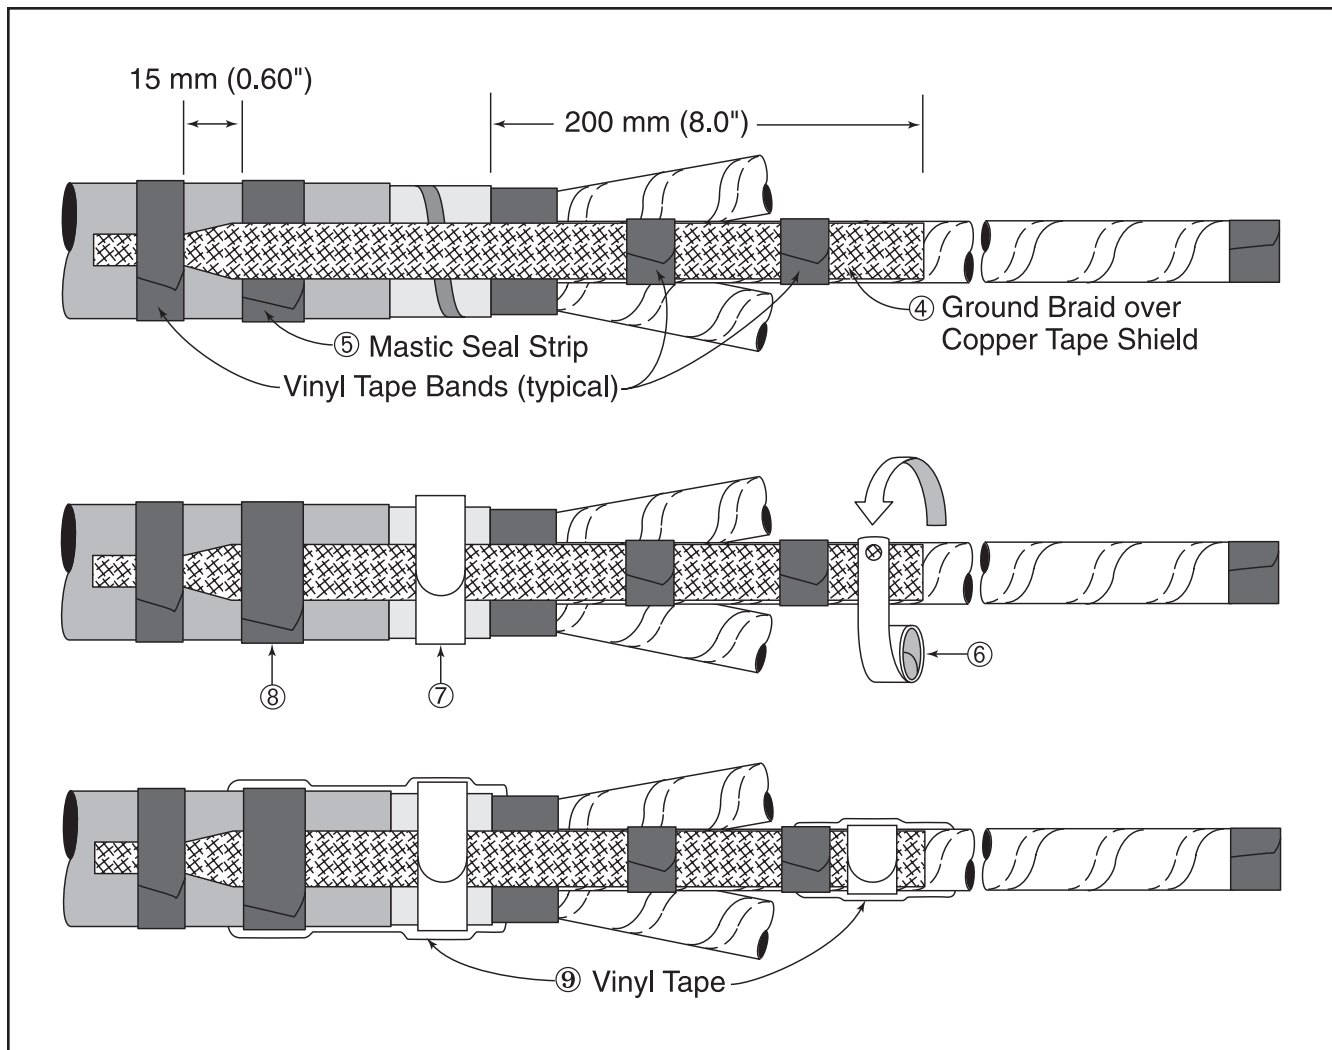

Figure 3
- 2.2 Position each expanded ground braid end over cable as shown in Figure 3. Using vinyl tape bands, secure upper braid end to copper tape shielding 200 mm (8.0") beyond armor edge (jacket edge for non-armored cable) (④ Figure 3). Secure to cable jacket 15 mm (0.60") below mastic seal strip (⑤ Figure 3).
- 2.3 Connect ground braid upper ends to copper tape shield using small constant force spring (⑥ *Figure 3*).
**Armored cables:** Connect three ground braids to cable armoring using one large constant force spring (⑦ *Figure 3*). Following application, cinch (twist with hand) each spring to tighten.
- 2.4 Apply a second mastic seal strip over ground braids and previously-applied mastic strip (⑧ *Figure 3*).
- 2.5 Apply two highly stretched half-lapped layers vinyl tape over mastic seal strips and constant force springs (⑨ *Figure 3*).